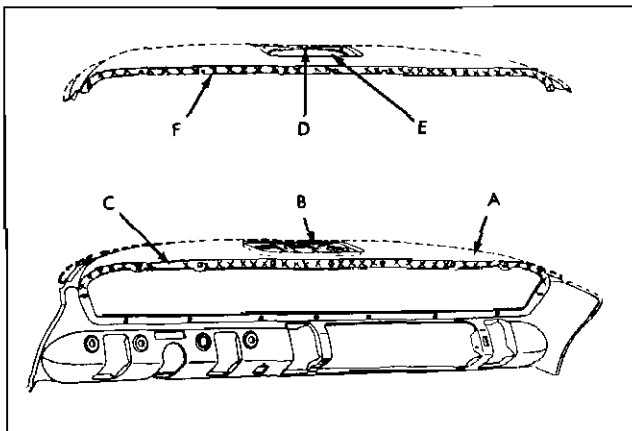

Fig. 1-12 Instrument Panel Cover Installation
3. Apply a thin coat of an approved neoprene type weatherstrip adhesive to instrument panel as shown in Fig. 1-12. Apply a two inch wide strip of adhesive to instrument panel area "A", 1½ inch wide strip to instrument panel areas "B" and "C".
4. Apply a heavy coat of an approved neoprene type weatherstrip adhesive to instrument panel cover as shown in Fig. 1-12. Apply a three inch wide strip of adhesive to area "D" and a two inch wide strip of adhesive to areas "E" and "F".